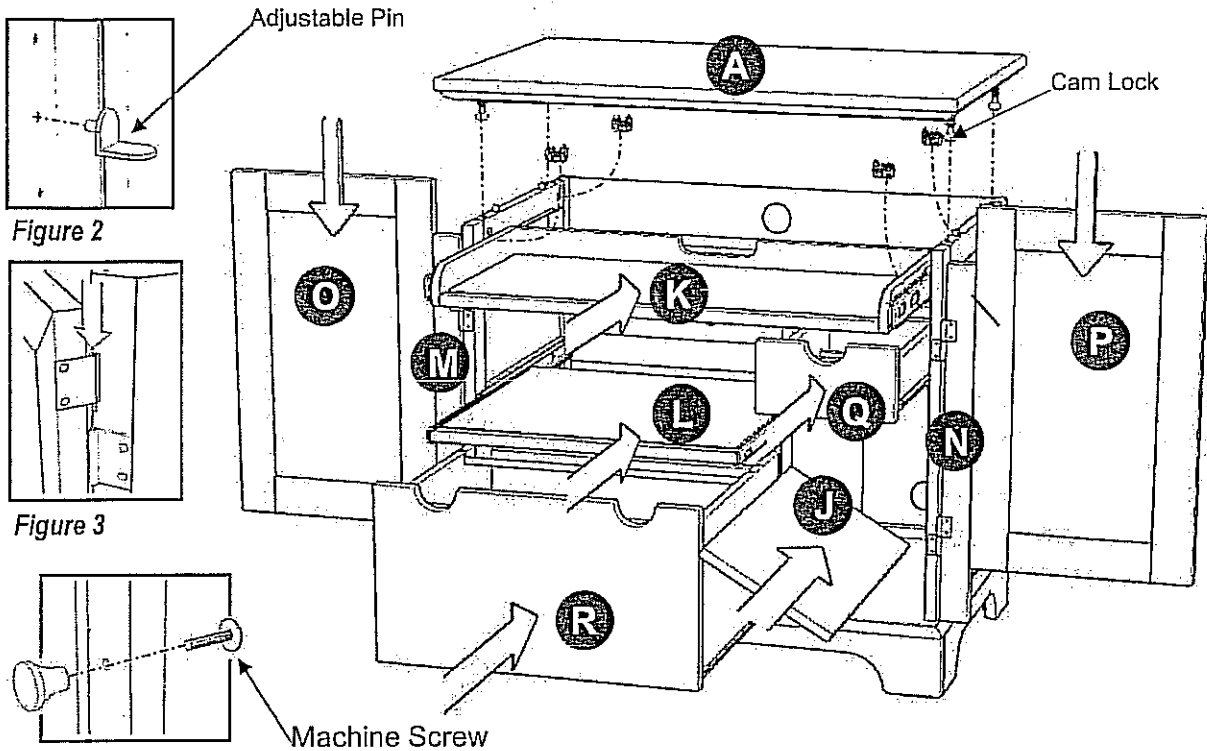

Figure 2
Insert Adjustable Pins into side panel and middle panel at the desired level (See figure 2), then place Shelf (J) into position.